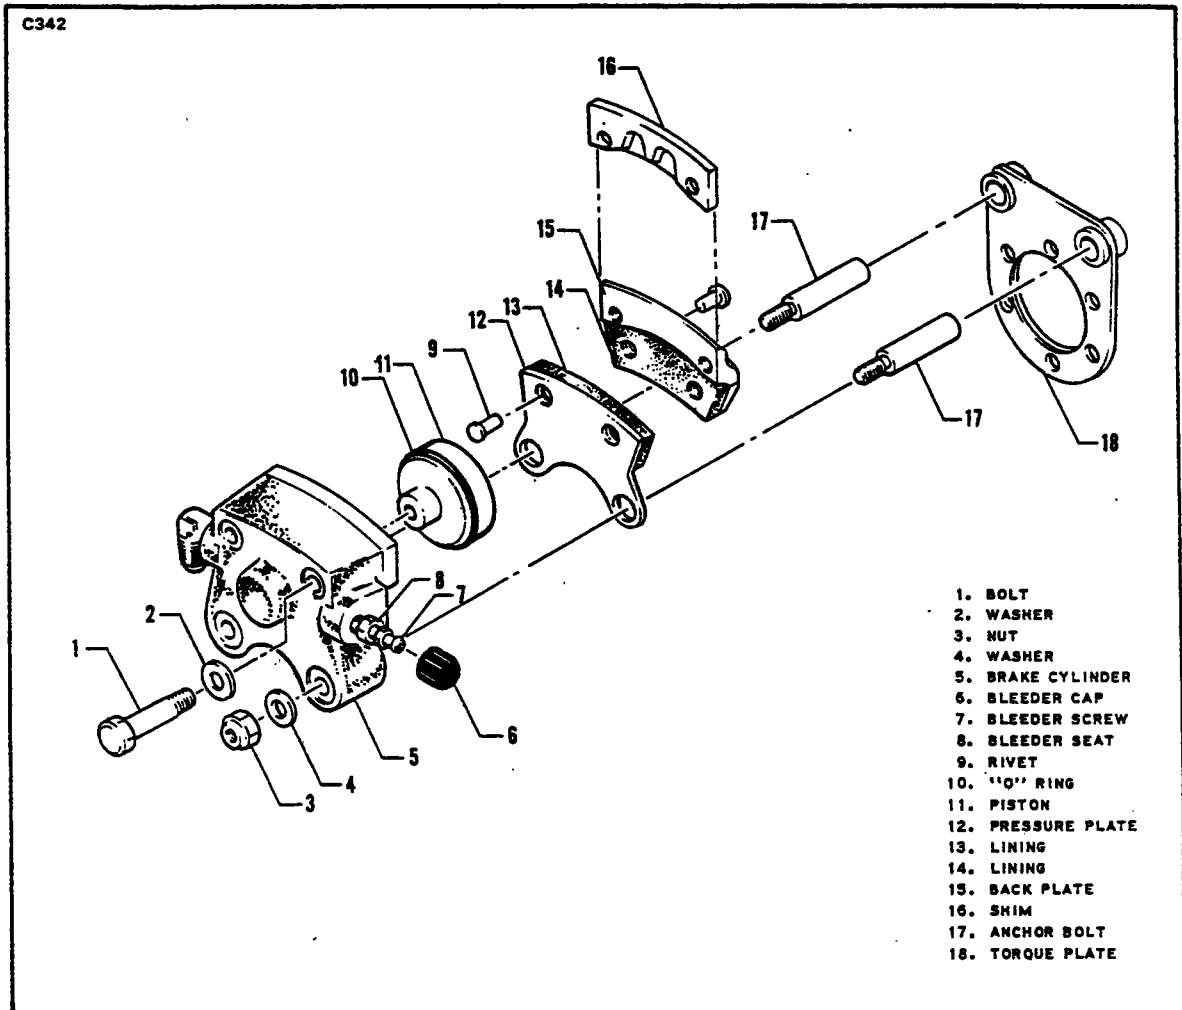

Figure 7-10. Wheel Brake Assembly
7-31. REMOVAL AND DISASSEMBLY OF WHEEL BRAKE ASSEMBLY. (Refer to Figure 7-10.)
**7-33. ASSEMBLY AND INSTALLATION OF WHEEL BRAKE ASSEMBLY. (Refer to Figure 7-10.)**